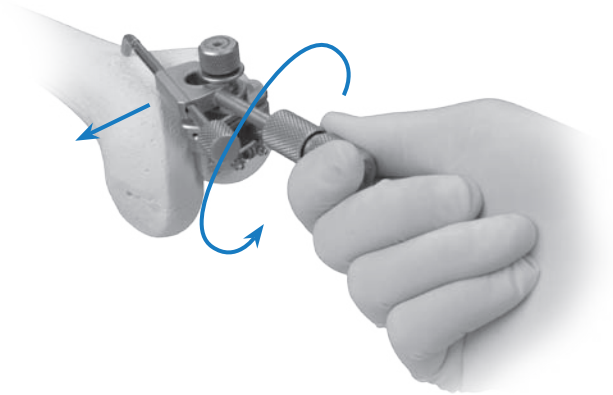

Fig. 15
- Loosen the locking knob on the boom and slide the boom off the IM Anterior Cut Guide (**Fig. 15**).